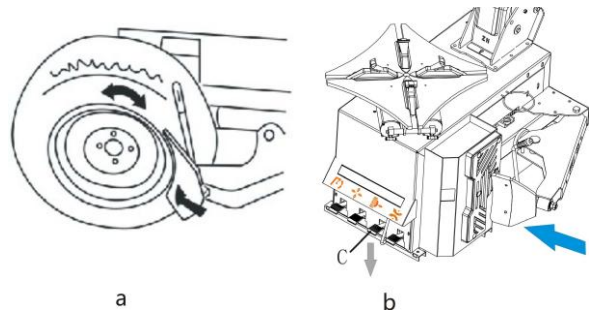

Fig. 13
* Place the wheel between the rubber support and bead breaker, move the plate to the bead(Fig. 13-a) and press the bead breaking control pedal C(Fig.13-b).